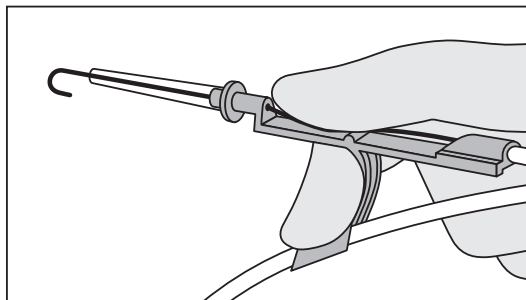

Figure 2
- Using your thumb, straighten the "J" by retracting SWG into the Arrow Advancer™ (refer to Figures 2 and 3).